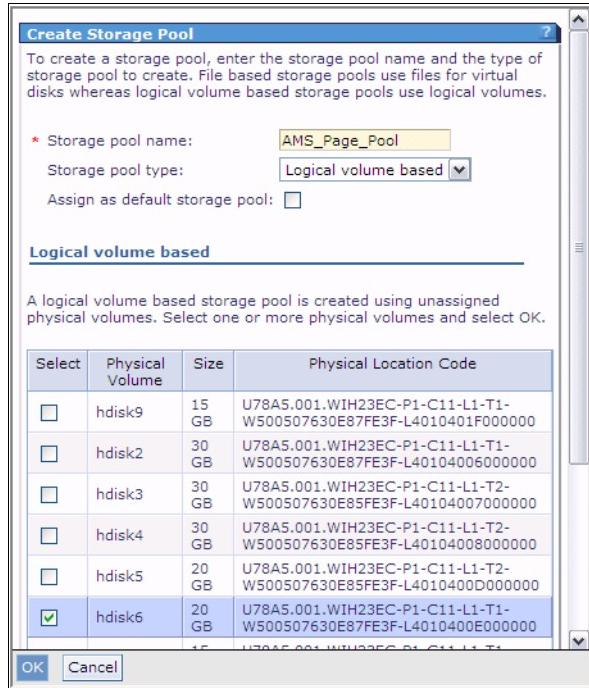

Figure 5-3 Naming the storage pool and selecting backing devices
- The next window will prompt for the name of the storage pool and the name must be a valid name for volume groups, for example no spaces are allowed and the name cannot exceed 15 characters. Use the choice of **Logical volume based** for the storage pool type. Next select the physical volume or volumes desired to create the pool as shown in Figure 5-3 on page 186.